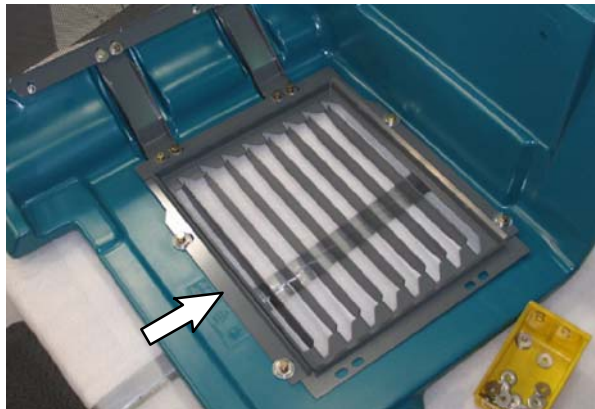

FIG. 84
105. Use eight hex screws (51), eight flat washers (19), and four fender washers (101) to install the grill (50) onto the right rear cover (78). (Fig. 84)